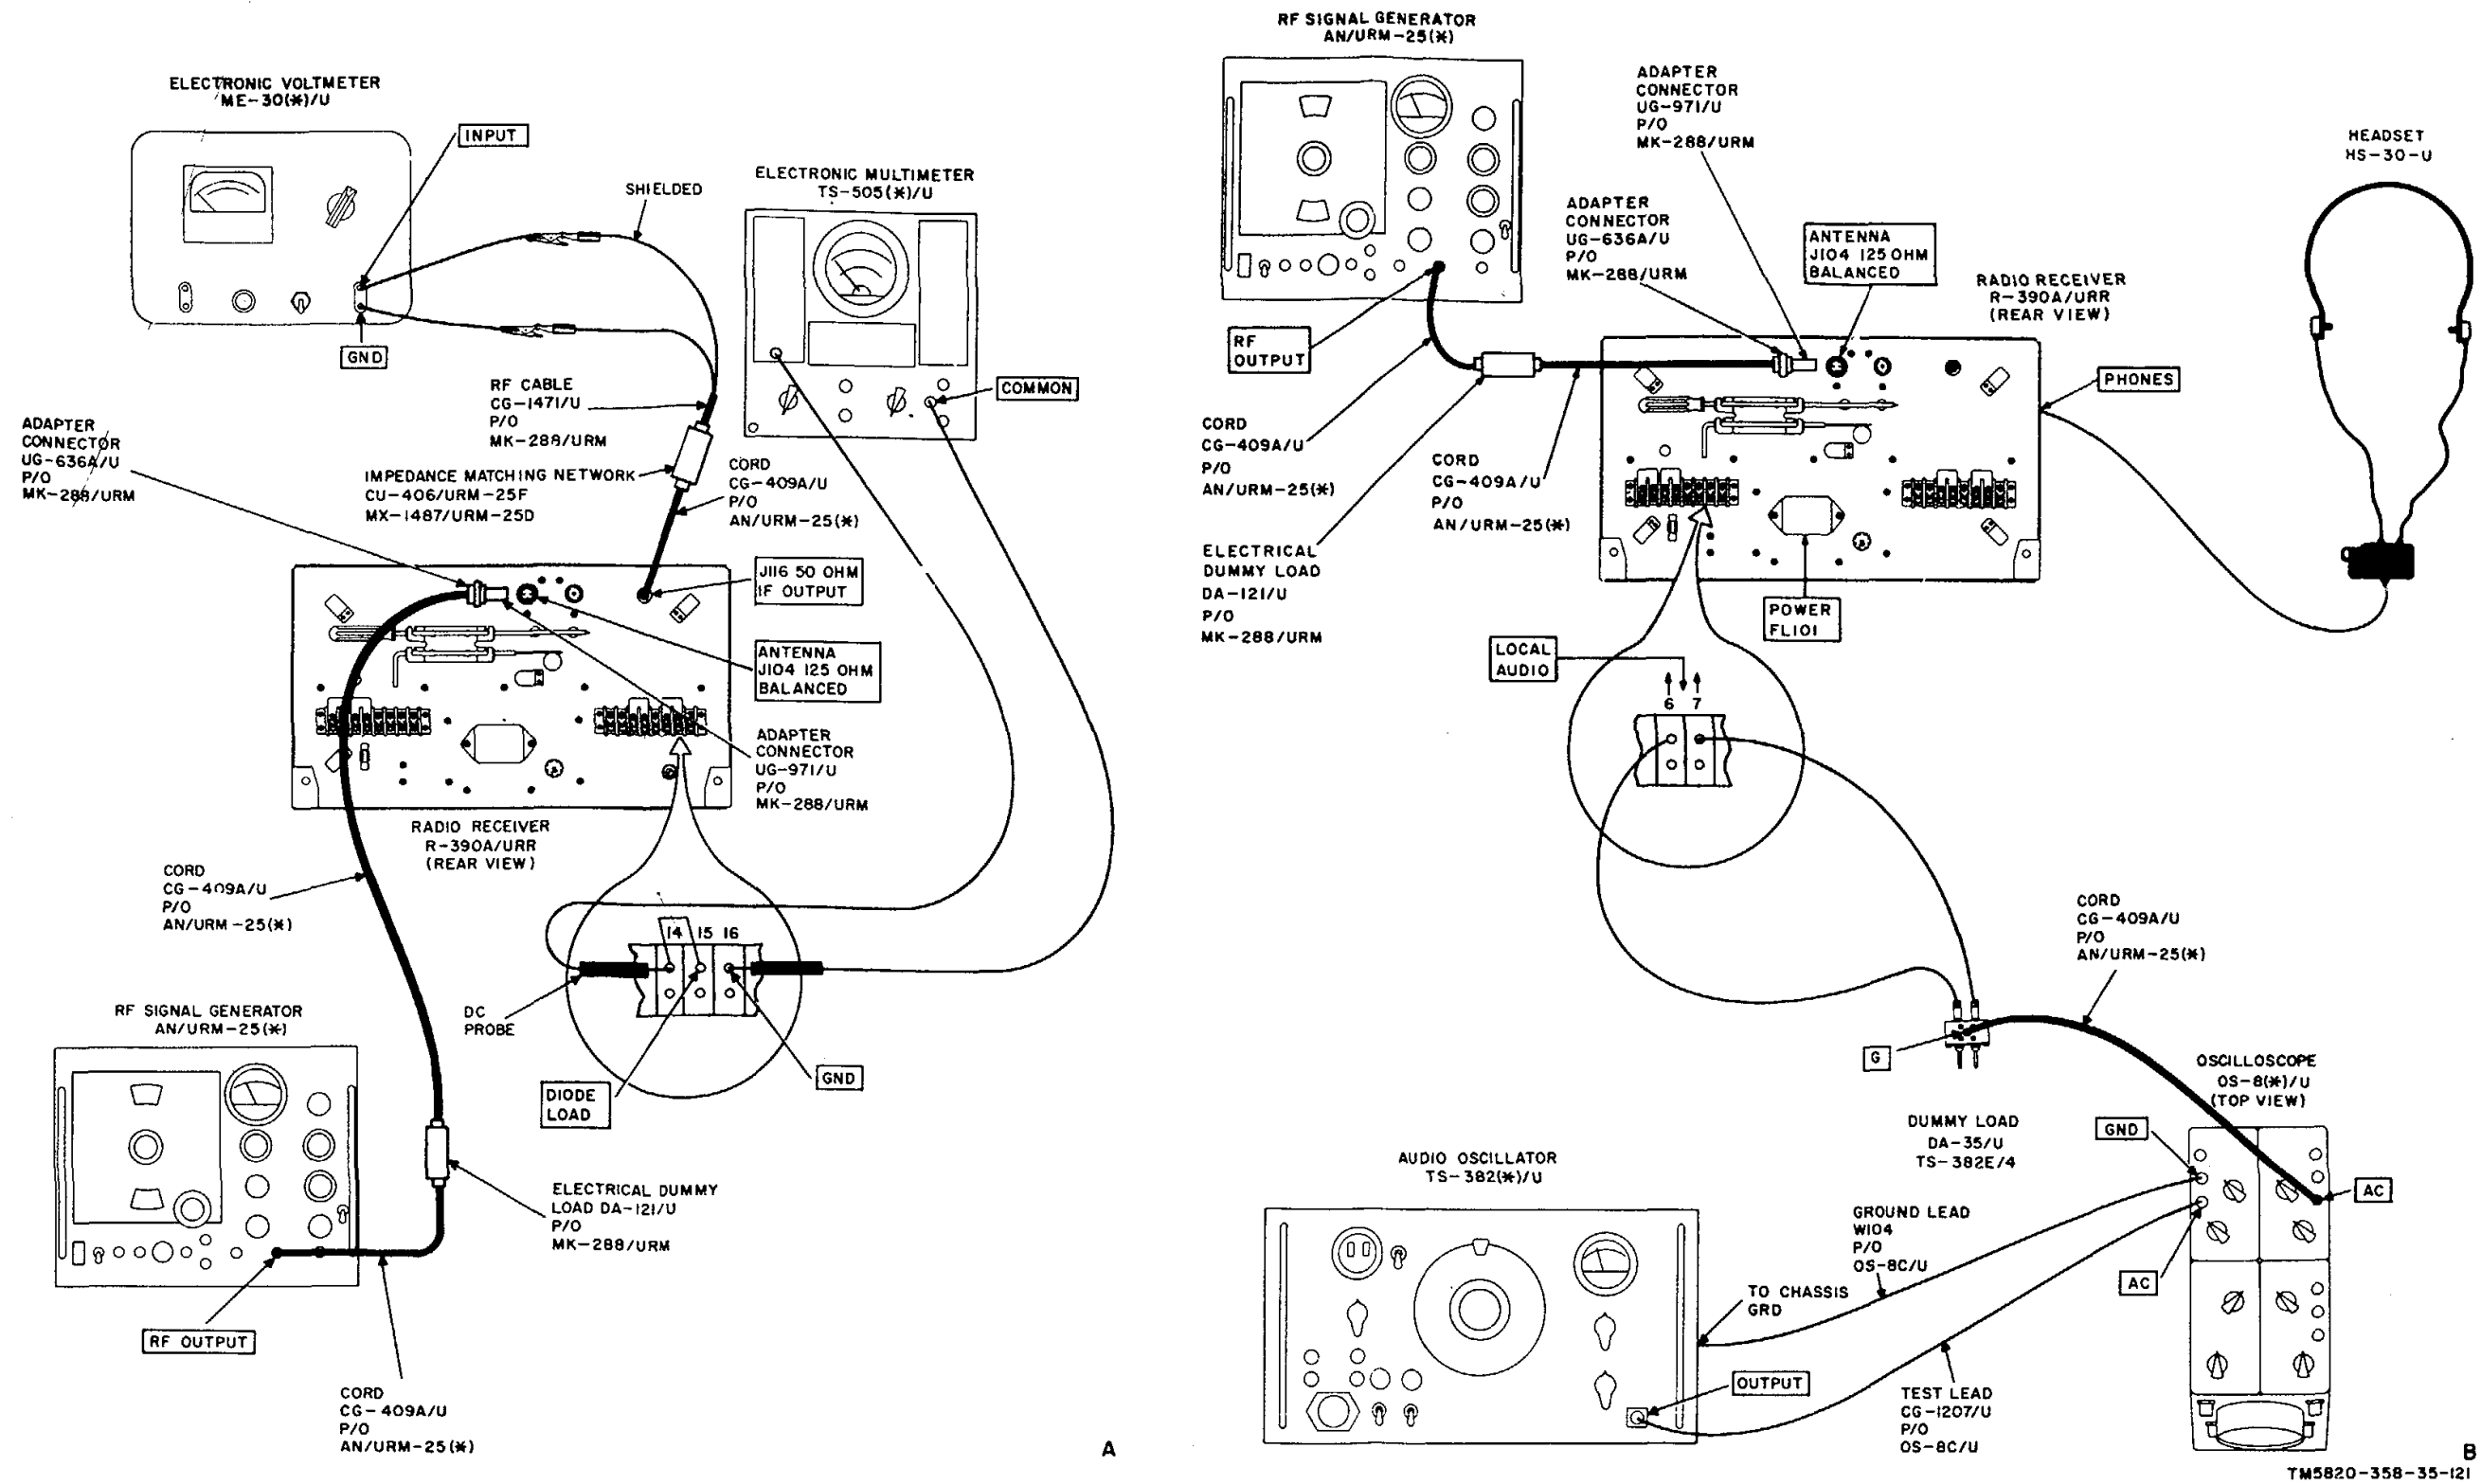

Figure 76. If. Output and bfo calibration test setup.
(fig. 76)
b. Test Connections and Conditions. Connect the equipment as shown in A, figure 76. Turn on all test equipment and allow a warmup time of 15 minutes.